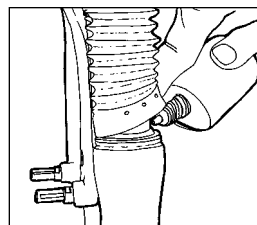

Fig. 4
1. Lift fork boots from lower tubes, and wipe double seal area and upper tube clean. Apply 2-3 drops of teflon-fortified oil to the upper tubes at the seal. (See Fig. 4)